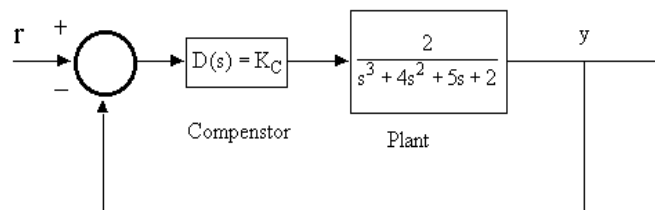

Fig.7
- Q.32** Consider the control system shown in Fig 7 in which a proportional compensator is employed. A specification on the control system is that the steady-state error must be less than two per cent for constant inputs. (5)
- (i) Find K_c that satisfies this specification. (5)
- (ii) If the steady-state criterion cannot be met with a proportional compensator, use a dynamic compensator $D(s) = 3 + \frac{K_I}{s}$. Find the range of K_I that satisfies the requirement on steady-state error. (9)